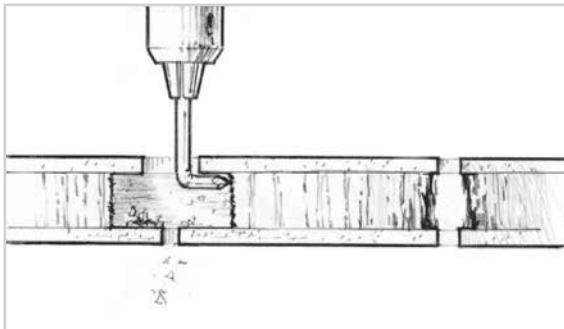

Figure 7-2 Remove about $\frac{1}{2}$ " (12 mm) of core material around the hole with a bent nail or an Allen wrench chucked into a drill motor.
2. Clean out the fastener holes and remove a portion of the core around the hole. Re-drill holes with an oversized bit or enlarge holes with a round file to increase bonding area. Drill through the outer skin and core only. Remove about $\frac{1}{2}$ " (12 mm) of core material around the hole with a bent nail or an Allen wrench chucked into a drill motor (Figure 7-2). The spinning nail or Allen wrench will pulverize the core material without damaging the skins, provided you are careful.